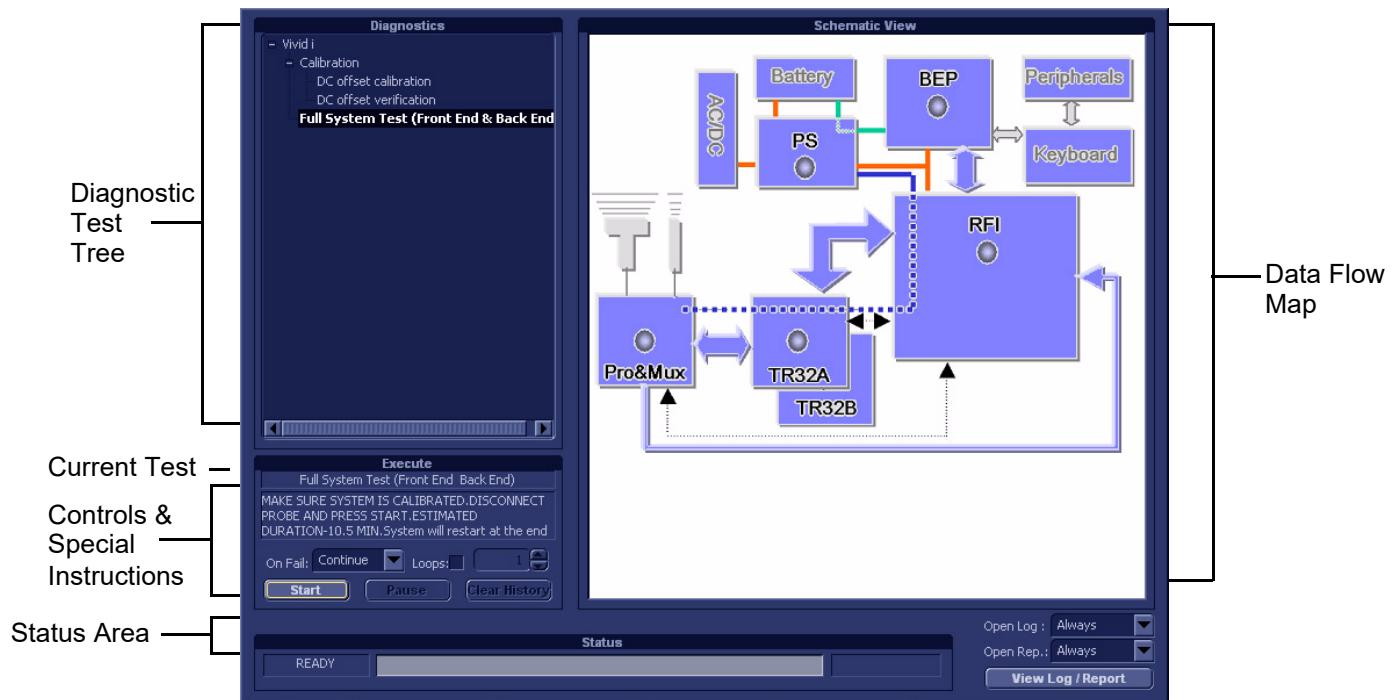

Figure 7-1 Diagnostic Test Window
The *Diagnostics Test Window* (Figure 7-1) comprises the following areas and menu options:
From the *Diagnostics Test Window* (Figure 7-1) the View Log button provides access to the test result information described below. This is shown in the View Log dialog box (see example in Figure 7-2 below) which is displayed in the *upper right portion of the screen* (over the Data Flow Map area).
- In 2D-Mode, press <ALT +Config> on the alphanumeric keyboard. The *Diagnostic Test* window is displayed, as shown in (Figure 7-1).